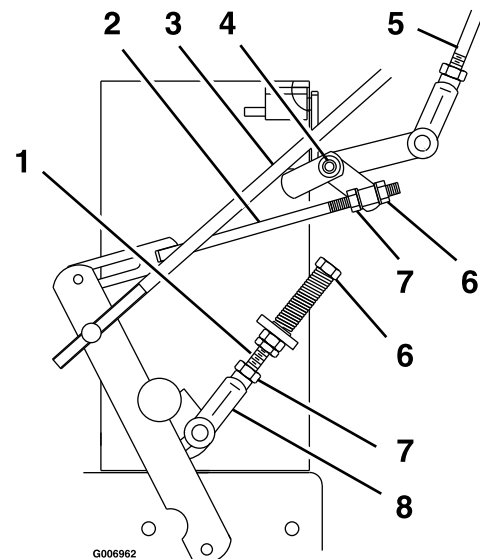

Figure 16
- Loosen the nut against the neutral control linkage yoke as shown in Figure 16.
2. Loosen the front nut on left hydro control linkage as shown in Figure 16. Turn the rear control linkage adjusting nut counterclockwise until wheel rotates forward. Turn the rear nut of left control linkage clockwise 1/4 of a turn at a time, stopping to move the speed control forward and back to neutral, until left wheel stops rotating forward.